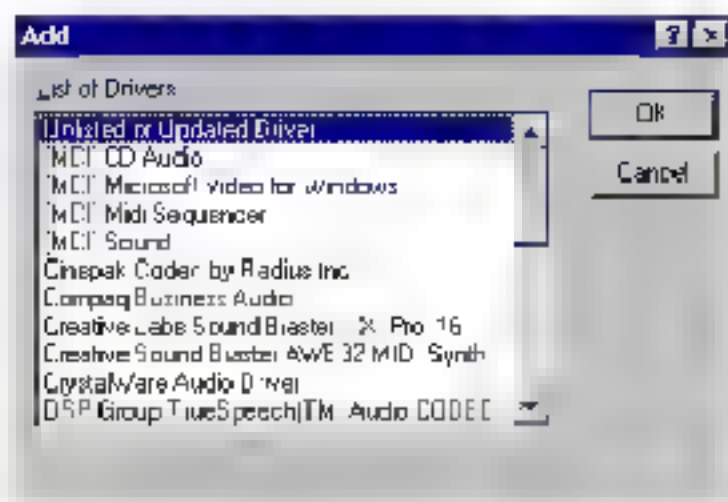

Figure 2-2 The Add window.
- 7) The Add window now appears. Highlight **Unlisted or Updated Driver** by clicking on it as shown in Figure 2-2 below. Click the **OK** button.